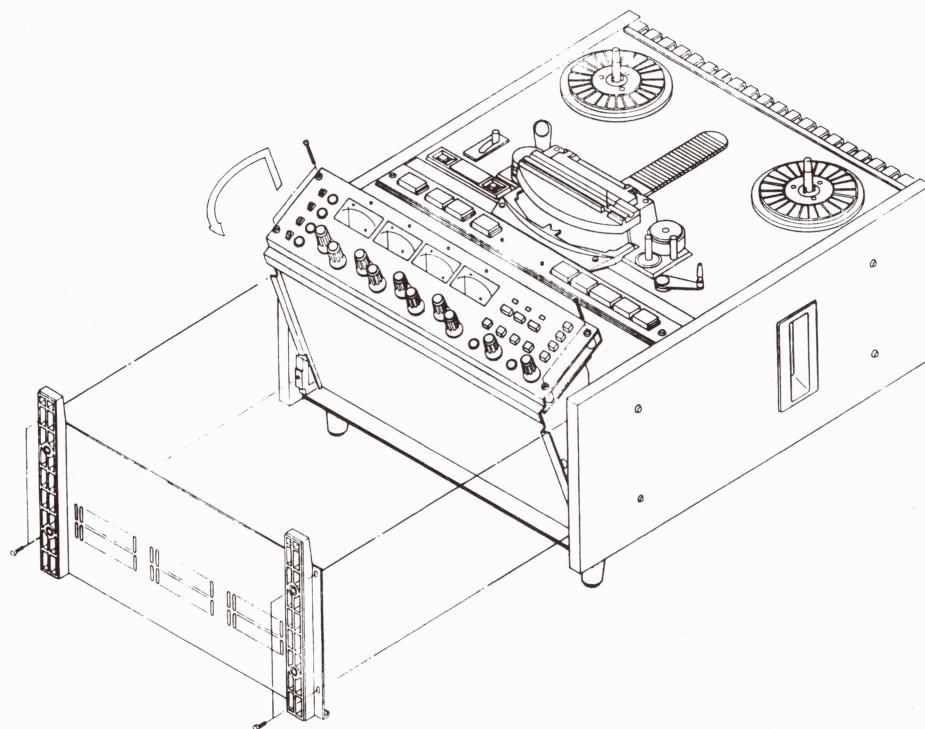

Figure 7-3 Electronics Access
2. Remove the bottom cover by removing the four screws on the cover as shown in Fig. 7-3, remove the four screws on the electronics front panel, as shown in Figure 7-3.